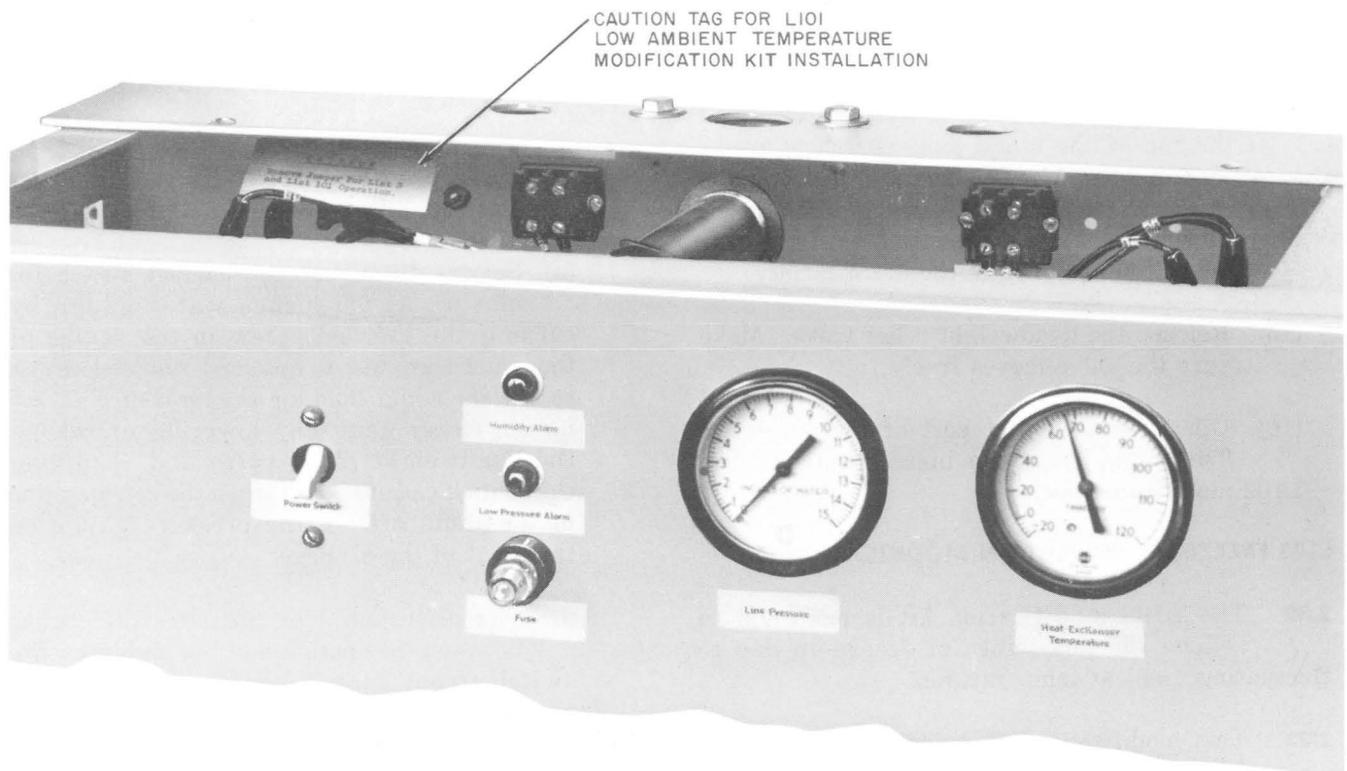

Fig. 8—Jumper Removal Tag for L101 Modification of L2 Dryers
- (1) De-energize the power supply and move the ON-OFF switch to OFF.
- (2) Mount the thermostat from the kit on a wall adjacent to the dryer, approximately 5 feet from the floor.
- (3) Disconnect the tagged jumper (Fig. 8) from the terminal block.
- (4) Connect new leads from terminal "R" on the thermostat to power lead 41 terminal and from terminal "W" to power lead 48 terminal on the terminal block in the dryer.
- (5) Resume dryer operation.